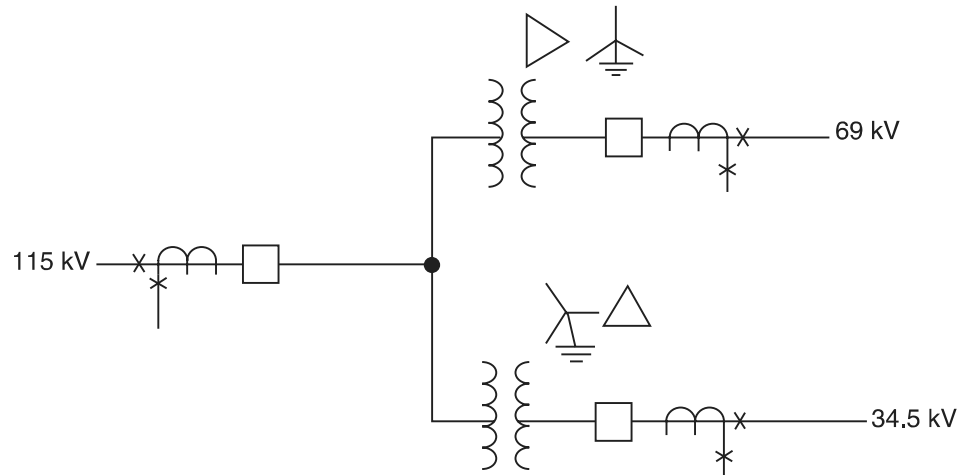

FIGURE P9.5
- 9.5** Two separate transformer banks are connected as shown in Figure P9.5, without high-side breakers for economy. High-side transformer CTs are not available. The banks are connected per ANSI Standards. For this arrangement: